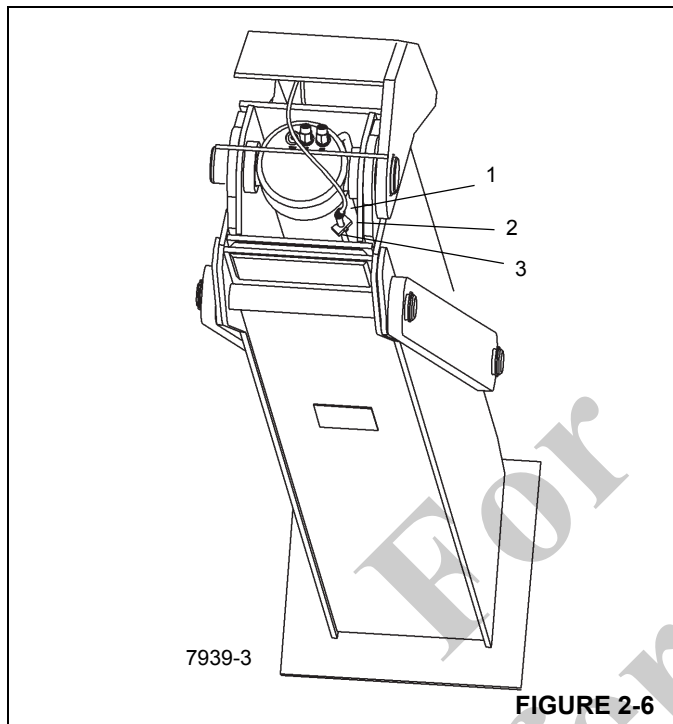

FIGURE 2-6
2. Disconnect electrical connector (1, Figure 2-6) at sensor.
3. Remove setscrews securing sensor (2) holding plate.
4. Slide sensor (3) out of sensor holding bracket.